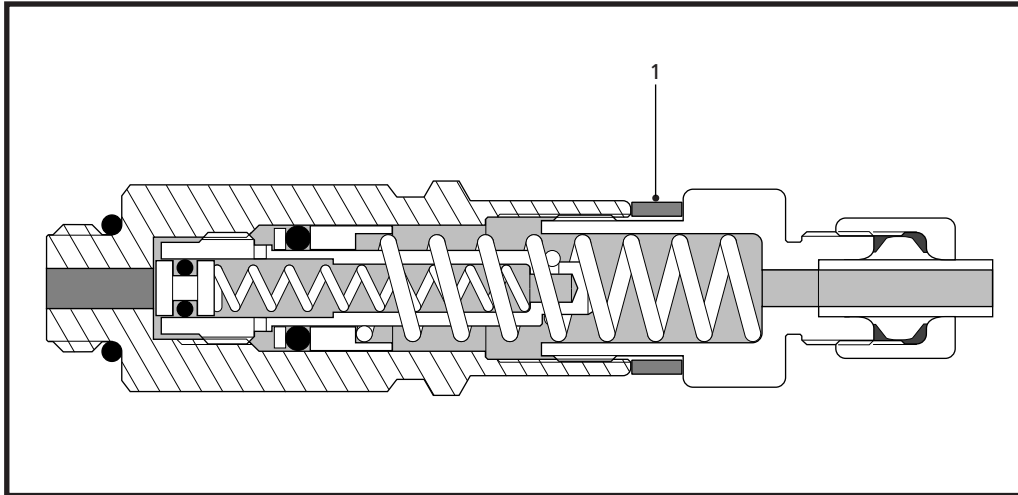

Figure 6.3 Metering unit in initial position
Figure 6.3 illustrates a new metering unit. One that has not yet been filled with grease. Item (1) is the spacer, which determines the delivery of the metering unit (see paragraph 6.1).
The grease is pumped via the primary line and the distribution block into the channel (1) of the metering unit. The grease pressure pushes plunger (4) past channel (2). The grease now fills chamber (3) and pushes plunger (5) to the right. The stroke length of plunger (5) determines the amount of grease that will be pressed through the secondary line to the grease point. This stroke length, hence the capacity of chamber (3), is determined by the number and thickness of the spacers (Figure 6.3/1).